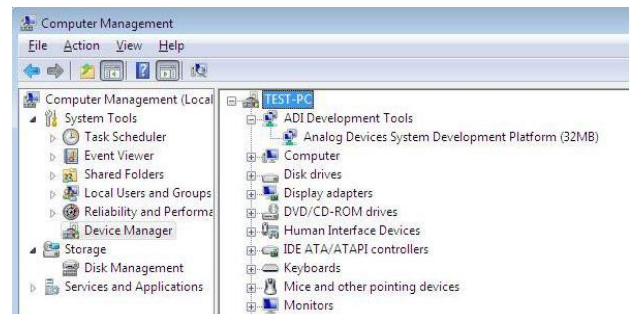

Figure 15. Device Manager: Checking the Board Is Connected to the PC Correctly
- c. The **Computer Management** box appears. Click **Device Manager** from the list of System Tools (see Figure 15).